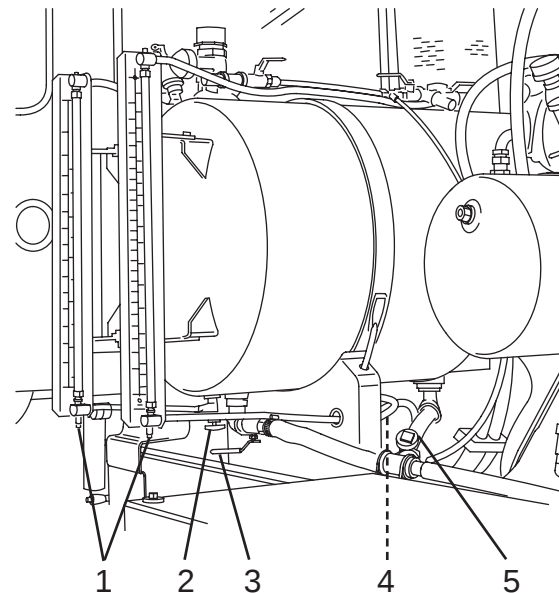

Figure 79
2. Remove the water tank drain plug(s), or open the main tank (Figure 79, Item 5) and chemical tank (if equipped) drain valves (Figure 79, Item 3).
3. Open the main tank (Figure 79, Item 4) and chemical (if equipped) sight glass isolator valves (Figure 79, Item 2).
4. Open the sight glass drain valves (Figure 79, Item 1).